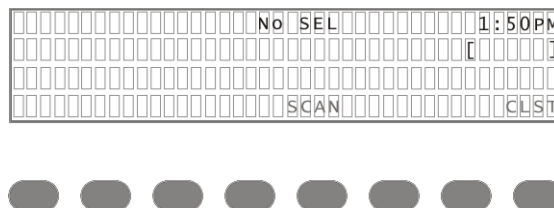

FIGURE 84. No Line Selected Display
- A blinking Release button indicates the line is being monitored for activity through the line activity monitor. The line can be configured to monitor for up to one (1) minute.
- A steady lighted Release button indicates TX block is occurring. The button is available only when the line is currently selected, unselected, or offhook. When no line is currently selected *NO SEL* appears in the display, see Figure 84.